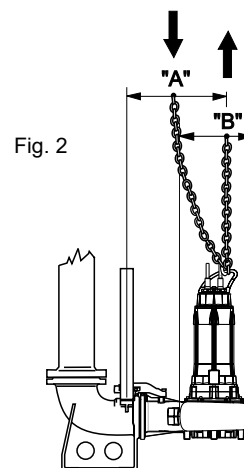

Fig. 2
1.5. - To remove the electric pump from its housing, first disconnect the electric cables from the control panel and operate the lift as indicated on page 10 (Fig. 2). Use a jet of clean water outside and inside the electric pump in order to wash off all residuals of the pumped fluid. Always wear accident-preventing goggles, rubber gauntlets, mask and a waterproof apron when carrying out these operations.